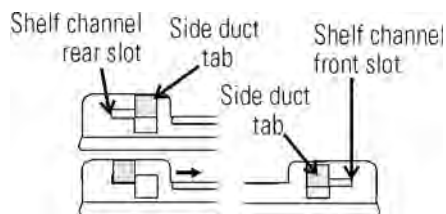

Figure 1-8. Channel Ends
3. Install the shelf channels by placing the channel's rear slot over the appropriate rear tab on the shelf support. Pull the shelf channel forward and engage the channel's front slot into the shelf support's appropriate forward tab. Refer to Figure 1-8.